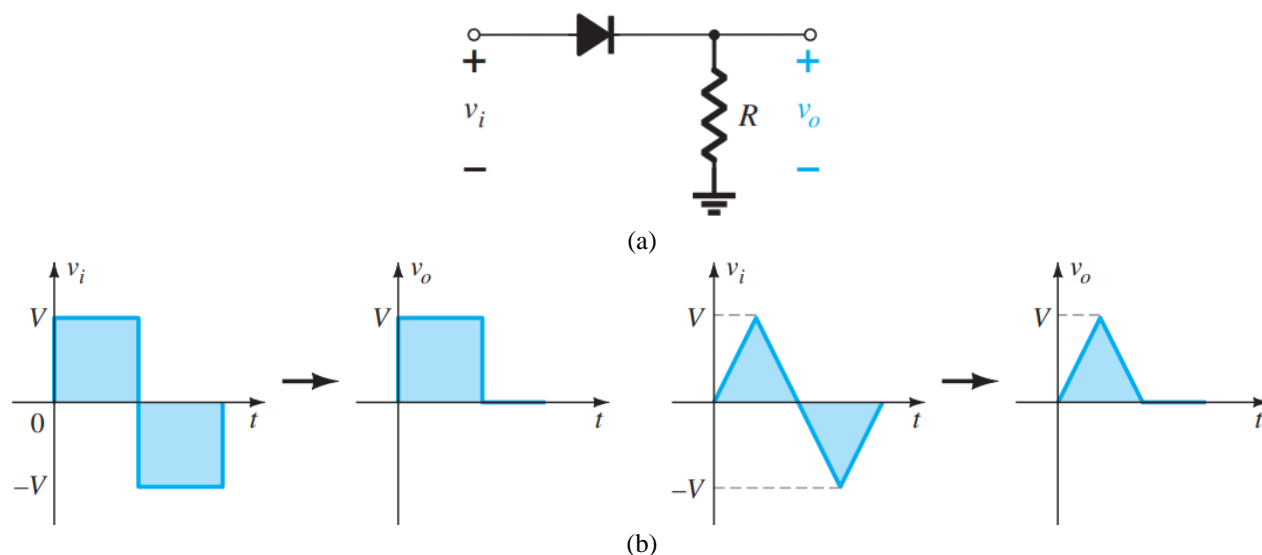
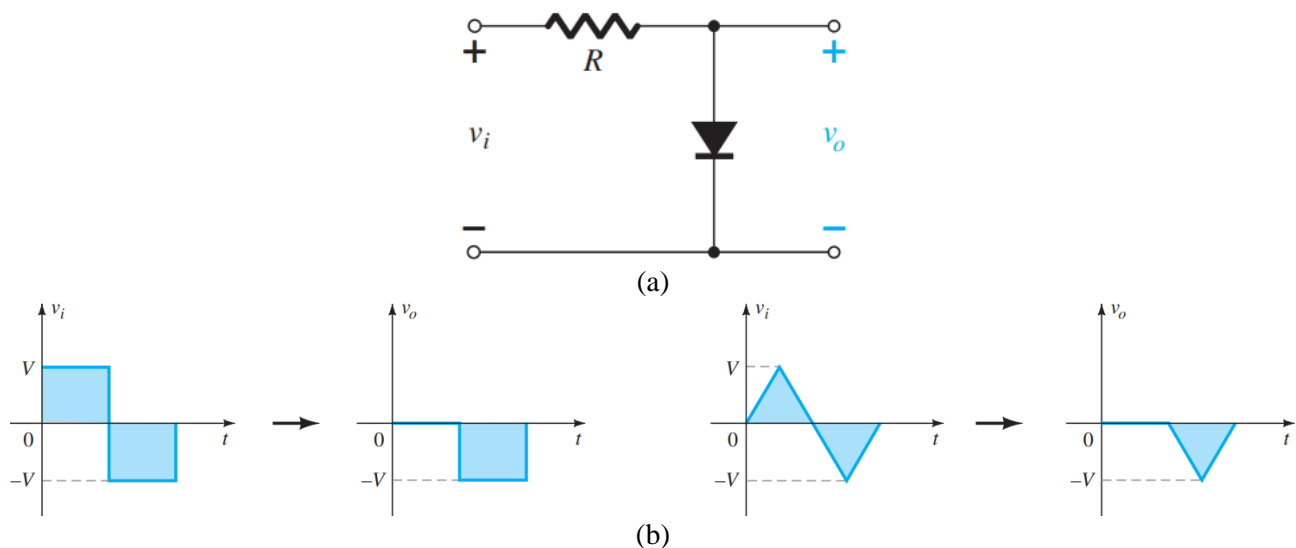

Figure 1: Unbiased series clipper: (a) Circuit diagram; (b) Input-output wave shapes (rectangular and triangular).
Figure 3: Unbiased parallel clipper: (a) Circuit diagram; (b) Input-output wave shapes (rectangular and triangular).
The series configuration is defined as one where the diode is in series with the load as shown in Fig. 1 (a). This circuit is divided into two types, such as unbiased and biased series clipper circuits.
Figure 1 (a) shows the unbiased series clipper circuit, where no DC supply is connected in series with the diode. The response of the unbiased series configuration of Fig. 1 (a) to a variety of alternating waveforms is provided in Fig. 1 (b).
The network of Fig. 3 (a) is the simplest of parallel diode configurations with the output for the same inputs as in Fig. 1 (b). The parallel clipper has the diode in a branch parallel to the load. The analysis of parallel configurations is very similar to that applied to series configurations. This circuit is divided into two types, such as unbiased and biased parallel clipper circuits. Figure 1 (a) shows the unbiased parallel clipper circuit, where no DC supply is connected in series or parallel with the diode. The response of the unbiased parallel configuration of Fig. 3 (a) to a variety of alternating waveforms is provided in Fig. 3 (b).
2. Connect the circuit as shown in Figure 1 (a).
Table 1 Data Table for the Circuit of Figure 1 (a) – 5 (a)